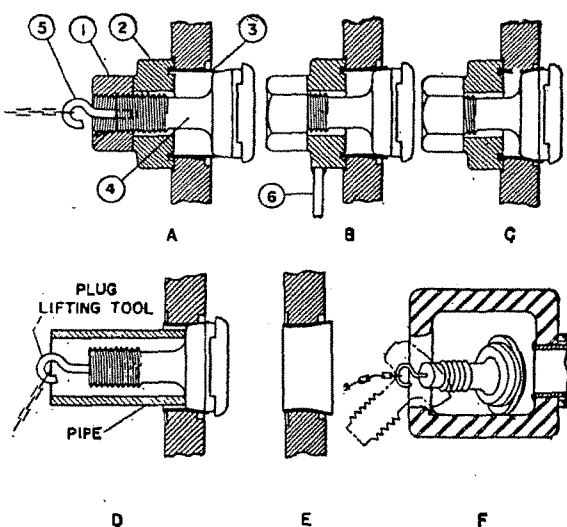

FIGURE 10. LIP TYPE HANDHOLE PLUG DETAILS.
Screw the lifting tool into the end of the stud, pass the plug through the handhole and draw it squarely in against the header wall (see Fig. 10 above). Wipe both sides of the ferrule with light, clean machine oil and insert in hole. Keep the square edge of the ferrule outside and the beveled end against the plug.
Install nut hand tight as shown in "A" of Fig. 10. Hold make-up plate firmly against header and tighten nut with wrench, tapping the plate back against the header after each small increment of tightening. The plug must not be allowed to bind unless the plate is fully in contact with the header.
Draw the plug in as far as possible with the wrench, then remove make-up plate, coat stud with a water and graphite mixture and install the standard handhole plate and tighten nut securely. Note that the plug must be drawn in hard in order to compress the ferrule properly and make a sealed joint as shown in "C" of Fig. 10.
Insert the plug into the seat and bring the make-up plate firmly against the header, similar to sketch "B" of Fig. 10. Slowly draw up the plug, using a wrench and tap the plate lightly to facilitate tightening and proper seating of the plug and ferrule.
- (1) Screw plug lifting tool into stud.
- (2) Remove nut, piece No. 7.
- (3) Remove plate, No. 6.
- (4) Slip pipe over lifting tool.
- (5) Drive plug into the header by tapping pipe as shown in view D of Figure 10 Section 3-5 Handhole Plugs (pg. 9).